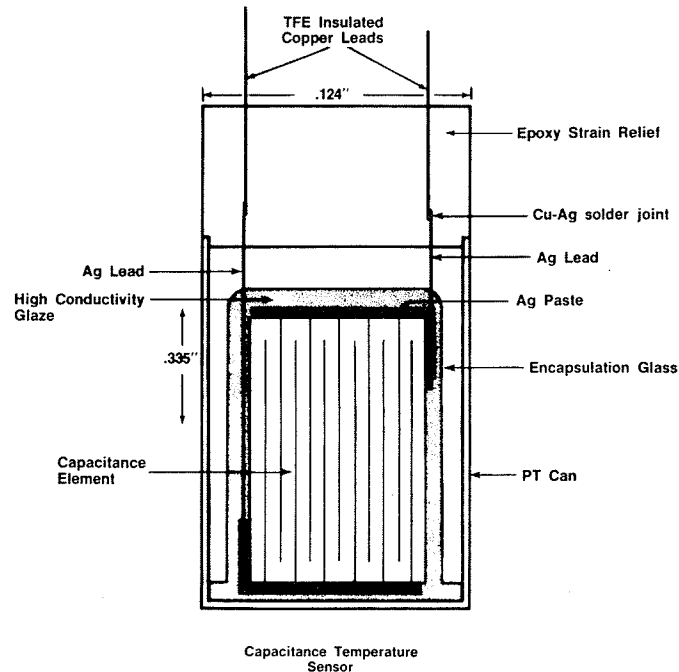

Figure 4
1. Capacitance sensors (Figure 4) may be connected to terminal points outside the cryostat with two unshielded insulated fine wires alongside the other wires leading to the sample area. No appreciable change in the measured capacitance arising from the leads should result, provided changes in lead capacitance due to mechanical movement are avoided. When the mechanical stability is not assured, each sensor lead should be connected to a thin coaxial cable brought out to the external terminal points, with the shield of each cable electrically insulated from the cryostat. Two coaxial cables, one for each lead, with the shield insulated from each other, should be used to complete the wiring.